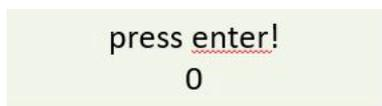

Fig. 45: Message press enter! – 0, the green adjust LED is ON
- Keep turning the adjust screw slowly clockwise, until the display shows “press enter! - 0”. Meanwhile, the green adjust LED is ON (see Fig. 45).